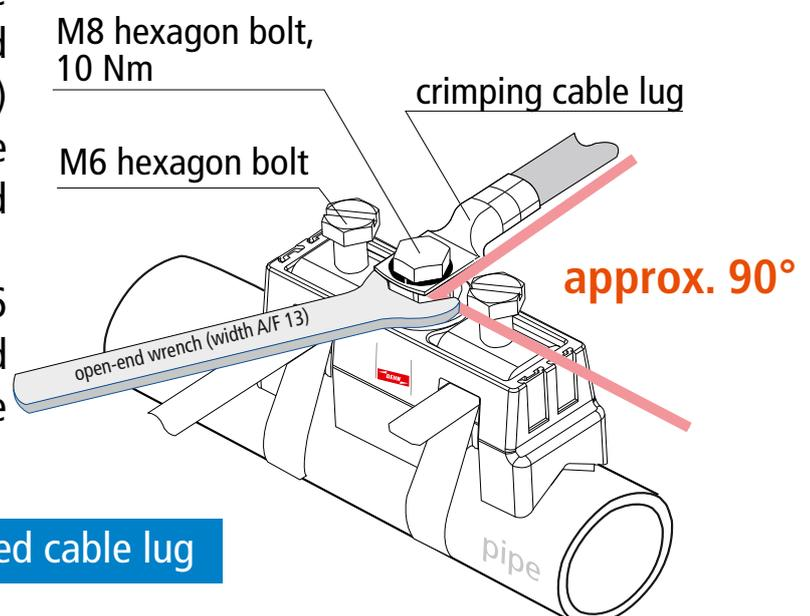

Fig. 1.4 Connection via crimped cable lug
- When connecting the conductors (via crimped cable lug) to the Ex-BRS 27 pipe clamp by tightening the M8 bolt, the contact stud has to be secured by means of an open-end wrench (width across flats 13) (tightening torque 10 Nm). Ensure that the conductor to be connected including the crimped cable lug does **not** contact the clamping unit (M6 hexagon bolt, grip holder and tensioning strap) or the pipe (see Fig. 1.4).